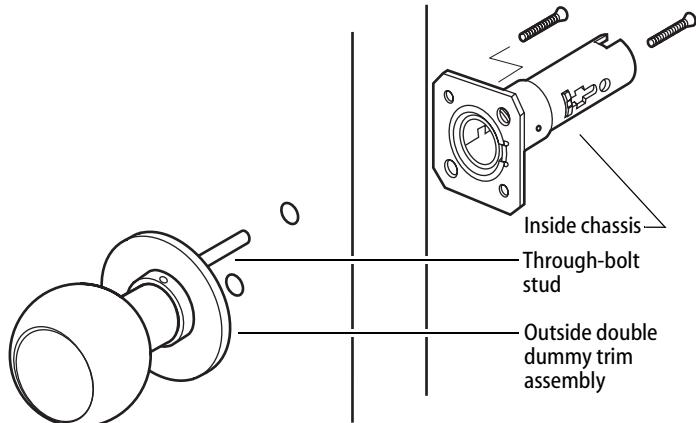

Figure 4–Installing the 8K double dummy trim
For 8K double dummy trim, disassemble the inside trim assembly only. There is no need to disassemble the outside trim. The outside trim assembly is the assembly that has through-bolt studs. See Figure 4.
- outside dummy trim assembly. See Figure 4.
- 1 Install the outside trim assembly from the outside of the door. See Figure 4.